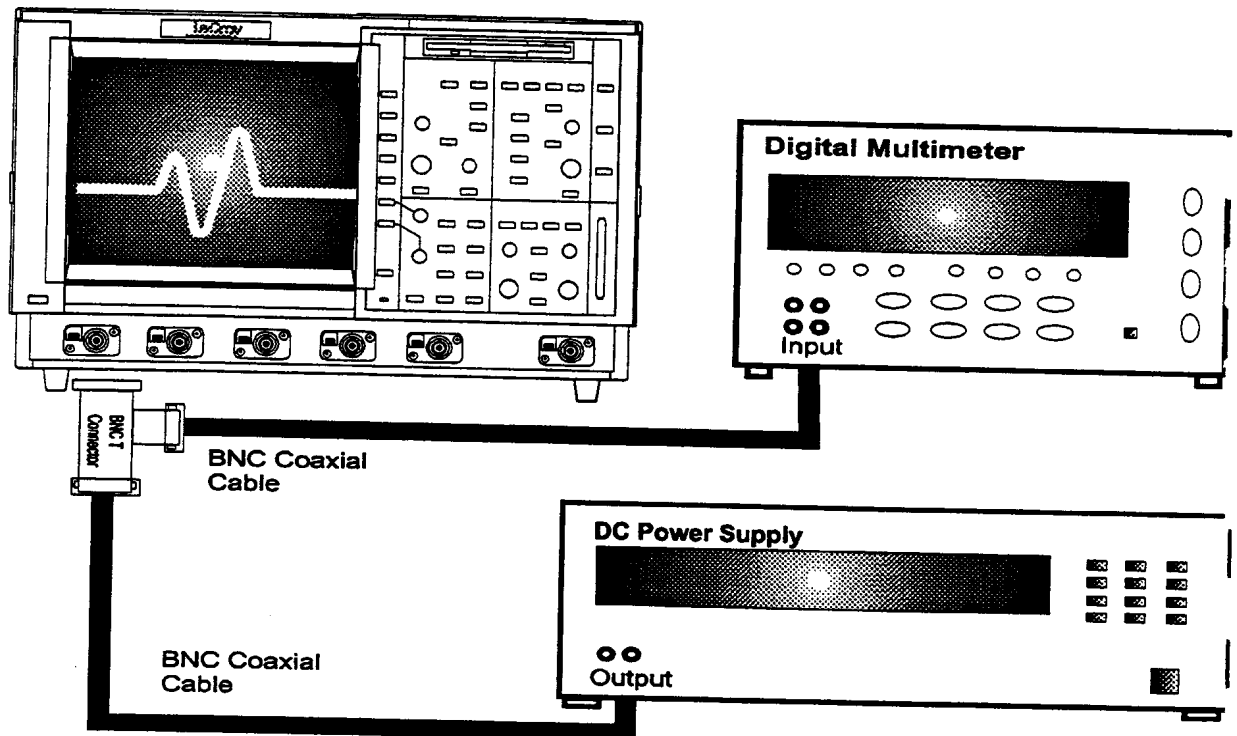

Figure 5-7 : Offset Accuracy Equipment Setup
- Connect the test equipment as shown in Figure 5-7.
- Verify that the displayed trace A : Average (1) is in the screen, near to the center horizontal graticule line.